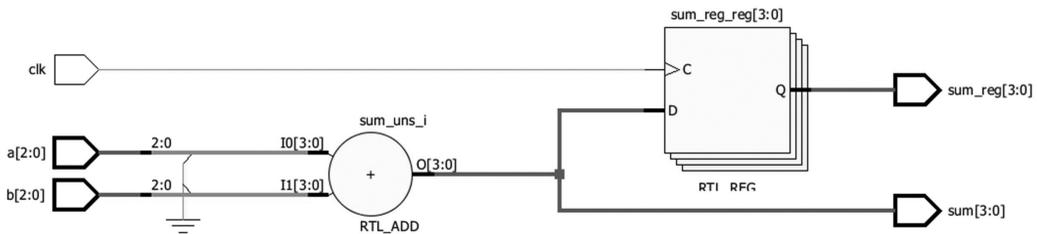

Figure A.6
- h) RTL Analysis: We can now check how our code was understood by Vivado. Under RTL ANALYSIS, click **Open Elaborated Design**; when done, click **Schematic**. The resulting RTL view is shown in figure A.6, which matches the circuit of figure A.1a.